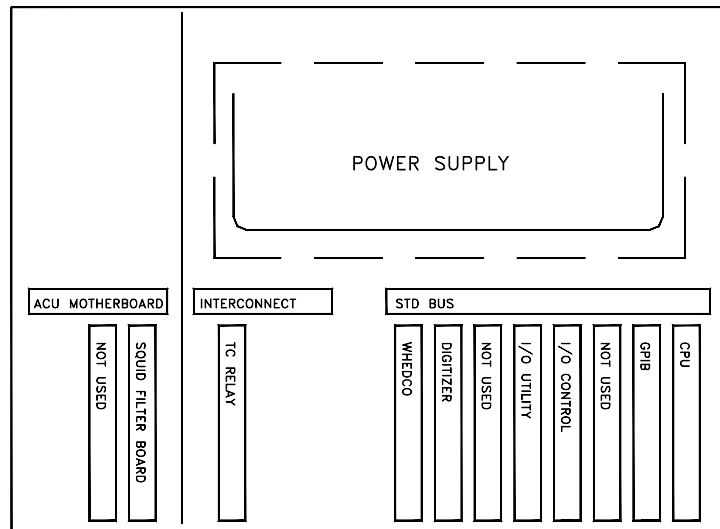
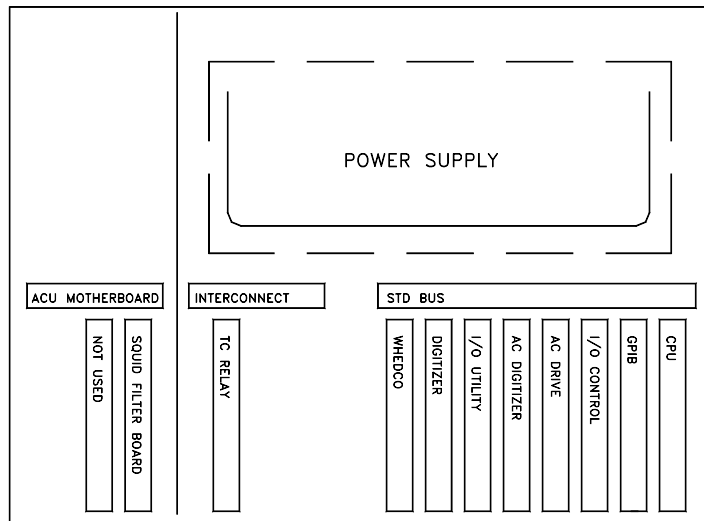

Figure 4a. Top view of the Model 1822 MPMS controller (without the cabinet). This 1822 controller does *not* have the AC option installed.
Figure 4b. Top view of the Model 1822 MPMS controller (without the cabinet). This 1822 controller *does* have the AC option installed.
3. Locate the 17-Bit Digitizer board that is currently installed in the Model 1822 Controller, using Figures 4a and 4b for reference. The board will be near the center of the 1822 Controller, just to the right of the WHEDCO board.
The configuration and appearance of the 1822 Controller depend on whether the AC measurements option is installed. Figure 4a illustrates the controller's appearance without the AC option; Figure 4b illustrates the controller's appearance with the AC option.
4. To remove the board you must disconnect several ribbon cables that obstruct your access to the 17-Bit Digitizer board. The cables and disconnection sequence that you use will vary depending on whether the controller *does* or *does not* have the AC option installed. Use the appropriate sequence below and Figure 4a or Figure 4b for guidance to ensure that you disconnect the correct cables.
1. To install the new 17-Bit Digitizer board in the 1822 Controller, place the board so that the component side faces to your left. See Figures 4a and 4b to guide the correct placement of the 17-Bit Digitizer board. The board goes into the slot that is to the right of the WHEDCO board, which is near the middle of the 1822 Controller.